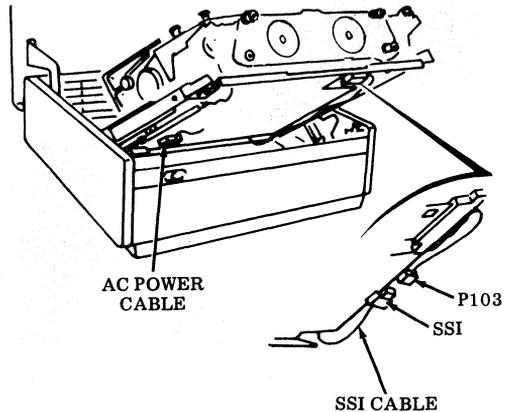

Fig. 21—Cable Connections
6.03 Connect ac power cable and SSI cable (Fig. 21).